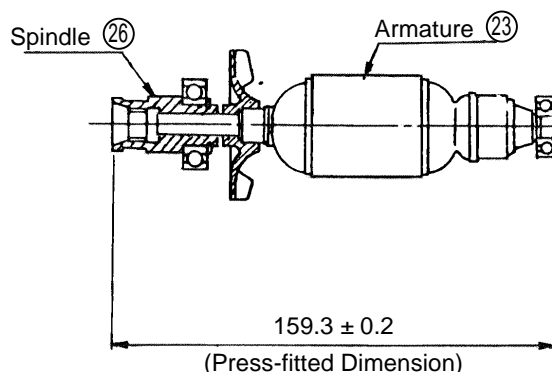

Fig. 7
- (1) Reassembly of the Spindle ②⑥:
Press-fit the Spindle ②⑥ onto the Armature ②③ so that the dimension from the tip of the Spindle to the opposite end of the Armature is 159.3 ± 0.2 mm, as illustrated in Fig. 7. Also, be very careful to